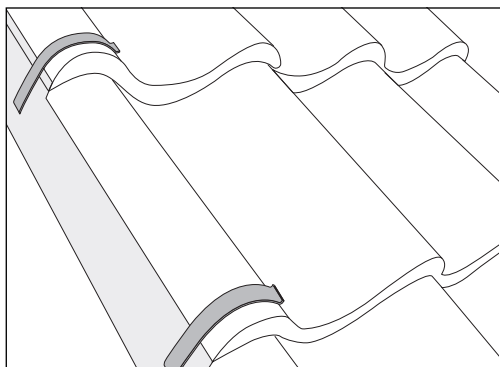

Fig 40 - Symphony verge clips
- 3 Provide 65mm width of mortar to bed all verge tiles and fix each verge tile by clipping each tile with purpose made verge clips on both left-hand and right-hand verges, twice nailed to the battens with the upstand level with the edge of the undercloak (Fig 40).